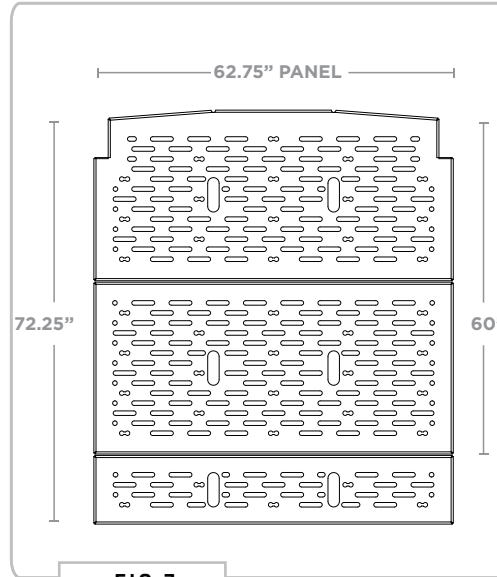
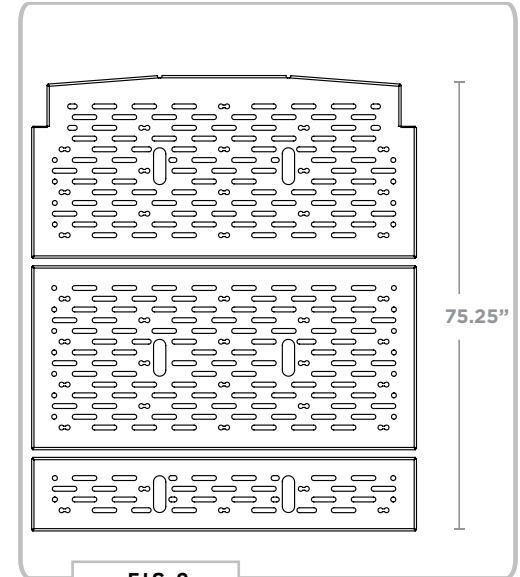
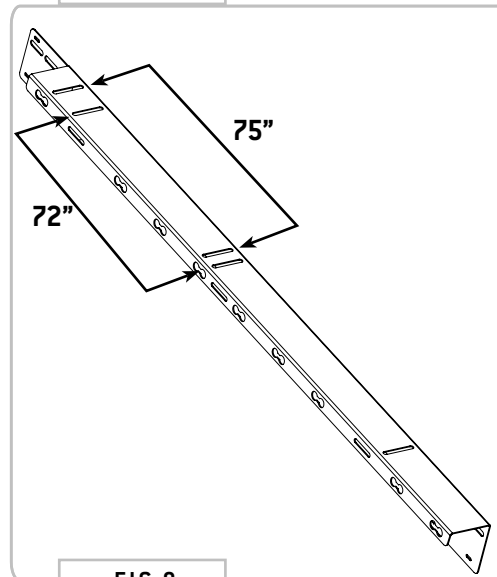

FIG 7
FIG 8
FIG 9
**NOTE** - There are two series of mounting slots on the top side of the rails. You have the option for a 72.25" bed (FIG 7) or a 75.25" bed (FIG 8) for you taller folks! See FIG 9 for slot locations.